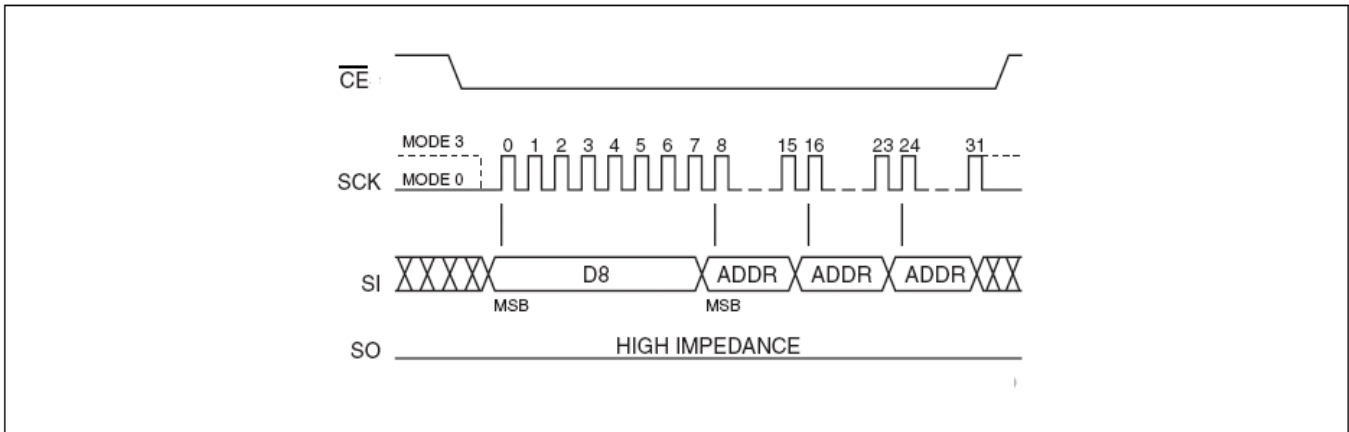

Figure 10: 64K-byte Block Erase Sequence
-A₀]. Address bits [A_{MS}-A₁₆] (A_{MS} = Most Significant address) are used to determine the block address (BA_x), remaining address bits can be V_{IL} or V_{IH}. \overline{CE} must be driven high before the instruction is executed. The user may poll the BUSY bit in the Software Status Register or wait T_{BE} for the completion of the internal self-timed Block Erase cycle. See Figure 10 for the Block Erase sequence.